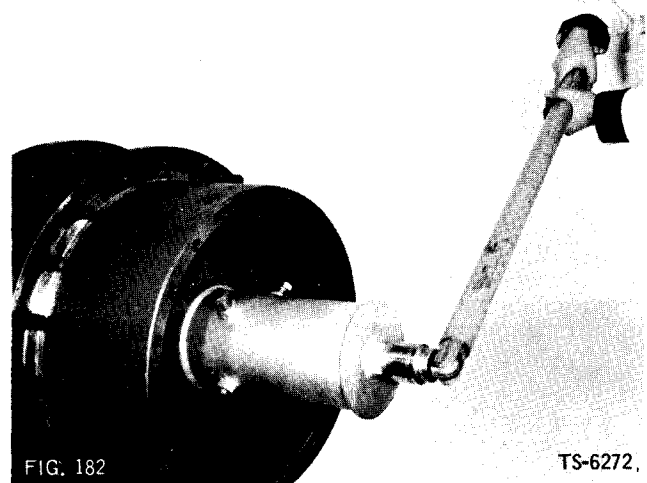

FIG. 182
27. Tighten inner nut while rotating wheel hub in both directions until there is a slight binding (Fig. 182).
32. Install nut lock and outer nut and tighten securely as shown in Fig. 182 to lock inner nut in position. Re-check rotating preload torque by one of two methods outlined above.